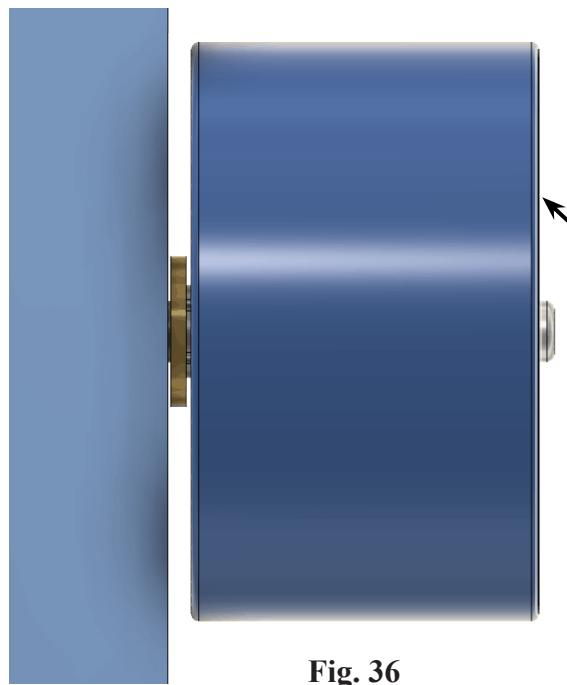

**Fig. 35**
Step 11. Click **Joint**  (J) on toolbar.
Step 12. Click **inside cylindrical edge of Rear Wheel** for first component selection and **outside cylindrical edge of E Clip1** for second component selection, **Fig. 35**. Right click and click **OK** .
Step 13. Click **Joint**  (J) on toolbar.